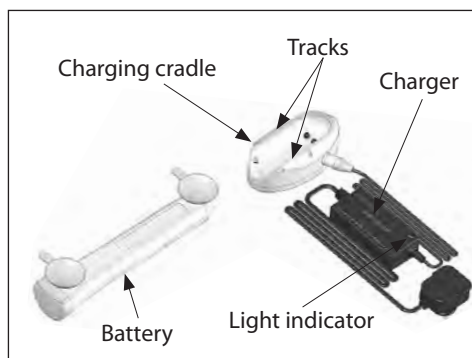
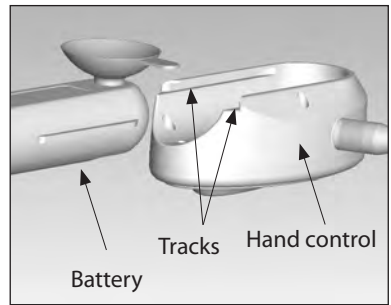

Figure 1
Figure 3
**1. Charge the battery** by sliding it into the tracks on the charging cradle (**fig 1**) and plugging it into the mains.
- Sliding the charged battery fully into the tracks on the hand control (**fig 3**);
- A bath lift, complete with two side flaps and hand control attached (**see fig 1**)
- iv) It is essential that the side flaps (**see fig 1**) do not catch under any obstructions such as integral bath/tub handles, handrails, soap dishes and taps/faucets when rising. If your bath/tub has integral handles and the side flaps are likely to catch, optional side flap protectors are available (see section 15, "Accessories"). These hook over integral bath/tub handles (**see fig 3**) and help guide the side flaps smoothly over the handles.